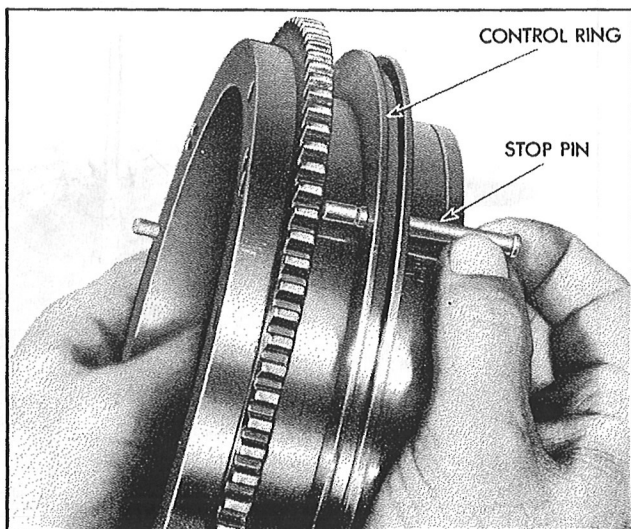

Figure 185—Installation of Stop Pins
*Step 4.*—Insert the three stop pins through the holes adjacent to the threaded holes of the control ring. Push the pins through the holes in the regulator gear flange, as shown in Figure 185.